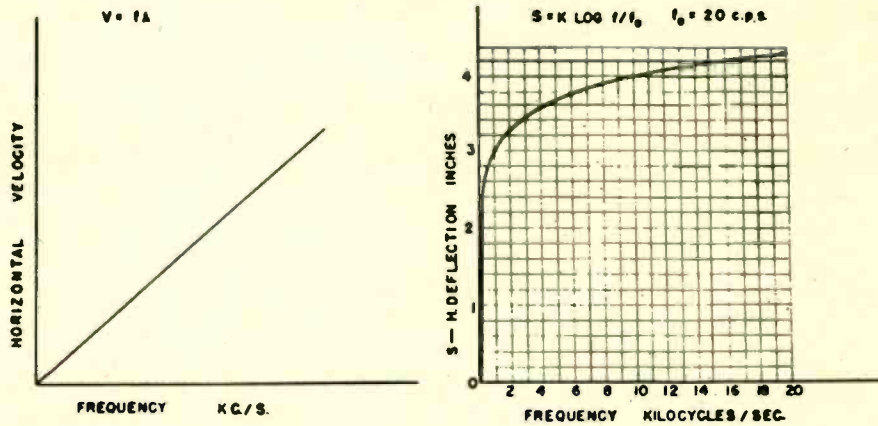

Fig. 7A (left) and 7B (right). Curves of Equations (1) and (2) showing conditions imposed on sweep velocity and frequency-scale division.
where  $f$  is the frequency at any point on the horizontal scale,  $\lambda$  is a constant wavelength, and  $v$  is the instantaneous horizontal spot velocity at the point. Equation (1) is illustrated in the plot of Fig. 7A.